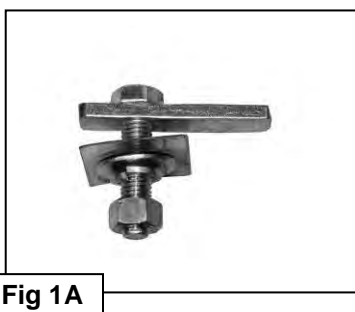

Fig 1A
3. Select (1) 10mm Bolt Plate and partially thread a Plastic Retainer onto it, (Fig 1A). Insert the Bolt Plate into the oval hole, (Fig 1B). Once the Bolt Plate is inserted, hold the Bolt end with one hand and tighten the Plastic Retainer with your other hand until it is tight against the body panel. **IMPORTANT:** The Plastic Retainer is designed to prevent the Bolt Plate from falling into the body cavity and to aid in installing the Mounting Bracket. **For Mid-year 2015 models it will be necessary to use the 10mm fish wire to install this bolt plate.** Insert fish wire into small slot and fish it until threaded end is present at large slot (Figure 2A). Pull this end out slightly and thread 10mm bolt plate onto end of fish wire (Figure 2B). Carefully feed bolt plate into rocker panel by pulling on opposite end of fish wire. Align 10mm bolt in slot and remove fish wire. Thread the 10mm plastic retainer down the bolt plate until it is flush against the sheet metal. (Figure 2C)